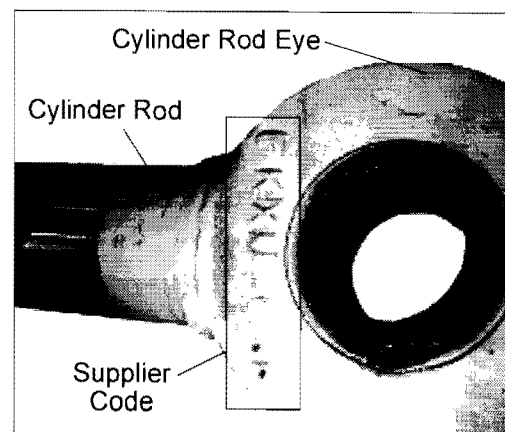

Figure 1 — Supplier Code Location
2. Look at the boom lift cylinder rod eye attached to the boom. A supplier code is cast in the rod eye (refer to Figure 1). The code is four letters. If the supplier code is **FKXU** or **FKMG**, the boom lift cylinder will need to be unpinned and lowered for further inspection. Go to Step 3. If the supplier code does not match either of those listed here, the inspection is complete. Go to Step 9.